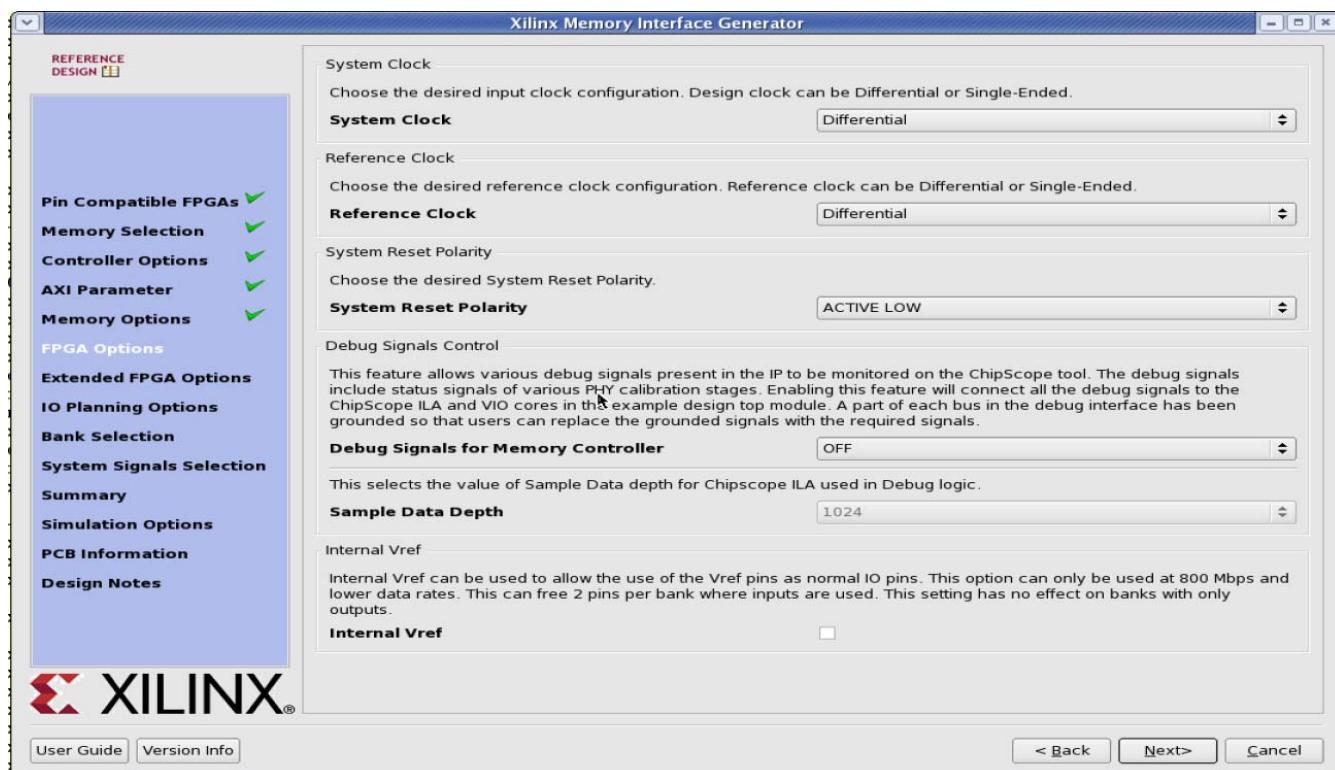

Figure 3-14: **FPGA Options Page**
Figure 3-14 shows the **FPGA Options** page.
- **sys\_clk** – This is the system clock input for the memory interface and is typically connected to a low-jitter external clock source. Either a single input or a differential pair can be selected based on the **System Clock** selection in the **FPGA Options** page (Figure 3-14). The sys\_clk input must be in the same column as the memory interface. If this pin is connected in the same banks as the memory interface, the MIG tool selects an I/O standard compatible with the interface, such as DIFF\_HSTL\_I or HSTL\_I. If sys\_clk is not connected in a memory interface bank, the MIG tool selects an appropriate standard such as LVCMOS18 or LVDS. The UCF can be modified as desired after generation.
- **clk\_ref** – This is the reference frequency input for the IDELAY control. This is a 200 MHz input. The clk\_ref input can be generated internally or connected to an external source. A single input or a differential pair can be selected based on the **System Clock** selection in the **FPGA Options** page (Figure 3-14). The I/O standard is selected in a similar way as sys\_clk above.
- **sys\_RST** – This is the system reset input that can be generated internally or driven from a pin. The MIG tool selects an appropriate I/O standard for the input such as LVCMOS18 and LVCMOS25 for HP and HR banks, respectively. Default polarity of sys\_RST pin is active-Low. Polarity of sys\_RST pin varies based on "System Reset Polarity" option chosen in **FPGA Options** page (Figure 3-14).